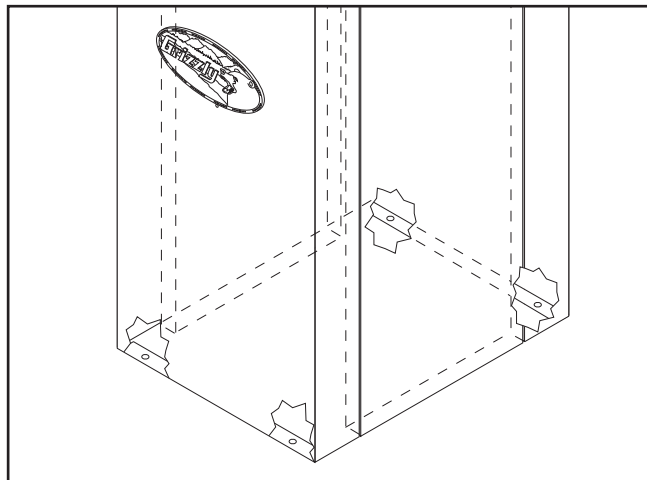

Figure 10. Mounting hole locations.
1. Drill four holes in the inner lip at the bottom of the stand in the approximate locations shown in **Figure 10**. Be sure the holes are large enough for the anchor method you choose.